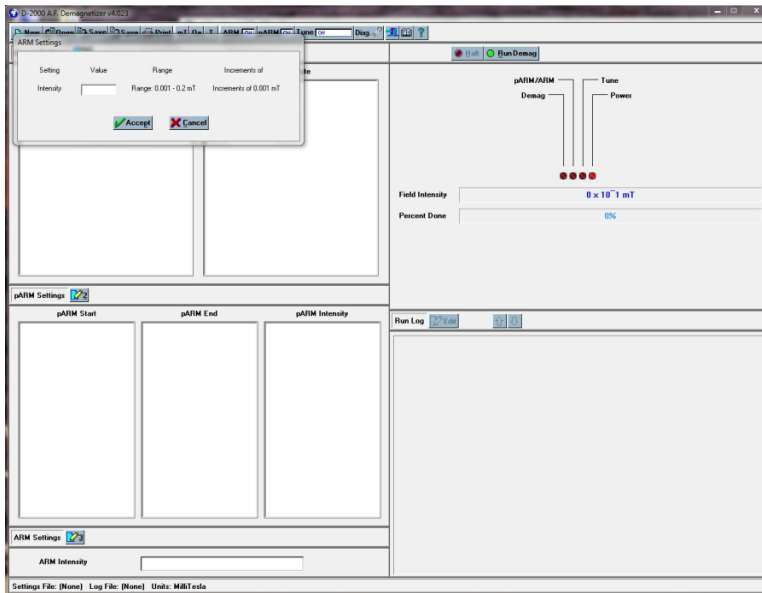

Figure 7: ARM settings
1. Click the number **3** next to the "ARM Settings" to open the ARM settings window. (Figure 7)